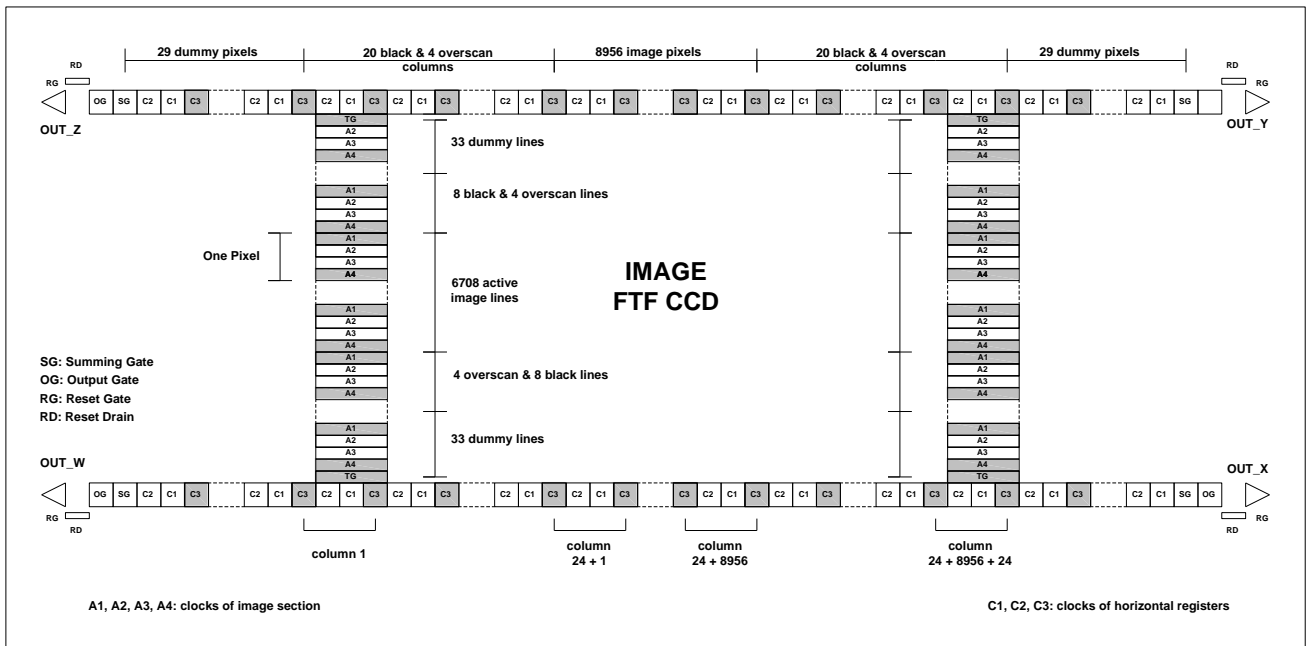

Figure 2: Detailed internal device structure
C3 gates of the lower and upper registers are part of the left half of the sensor (W and Z quadrants respectively). Each register contains a summing gate (SG) at both ends that can be used for horizontal binning (see figure 2).